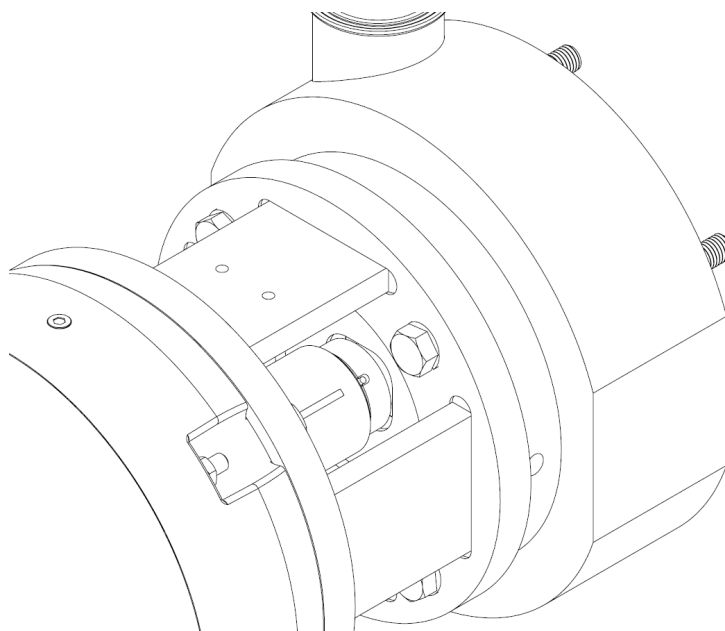

Figure 11
3. Set the slots in the rotating seal over the drive pins as shown in Figure 11.